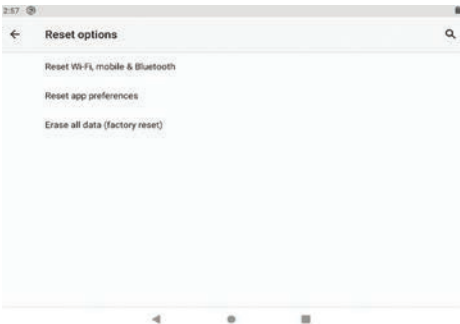

Figure 63. Reset Options
- 4. Tap on Reset Options, (Figure 63).